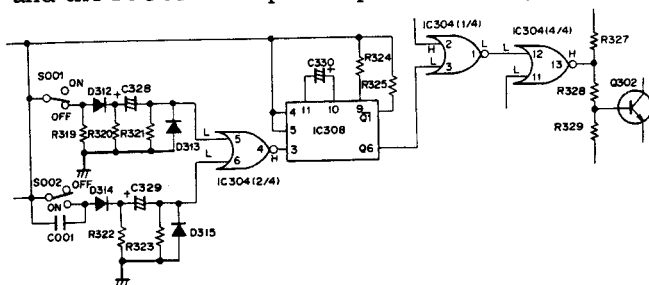

Fig. 7-13 Tape slack prevention circuit
- Figure 7-13 shows the manual direction switching circuit. When the direction selector switch S801 or S901 is pressed (turned on) the IC307 No.3 pin goes to L level. IC307 is a monostable multivibrator: when the No.3 pin changes to L level, the No.1 pin goes to L level and H level output is obtained from the No.6 pin. Operation time determined by C335 and R350 is about 1-second.